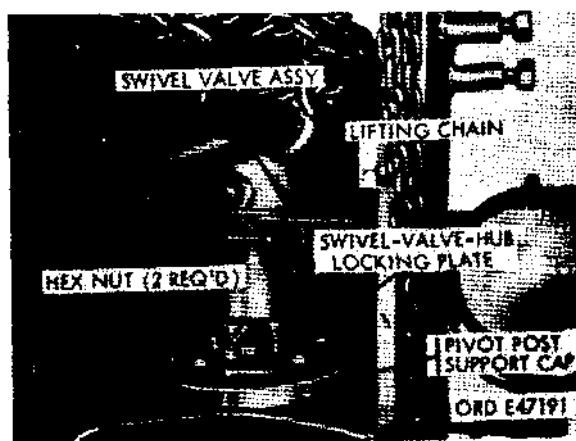

Figure 402. Front view of upper end of pivot post with swivel in raised position.
ported at the top and bottom by tapered roller bearings, which are installed on a tubular support member attached to the base plate. The pivot post support cap (fig. 402) bolted to the top of the pivot post support, anchors the pivot post to the support while permitting the pivot post to rotate freely on its vertical axis. The shipper support, on which the boom and ship-
e. Swivel Valve Assembly (figs. 401 and 402). The swivel valve assembly (fig. 401) is installed on top of the pivot post support cap (fig. 402) with its lower end extending into the pivot post support. A locking plate secures the valve assembly to the support cap. The swivel valve assembly permits 360° rotation of the crane without twisting or breaking the hydraulic lines from the pump to the driving motor, hoist hydraulic oil motor ((*i*) below), boom lift cylinder ((*g*) below), boom crown cylinder ((*h*) below), and control valve bank assembly ((*j*) below).